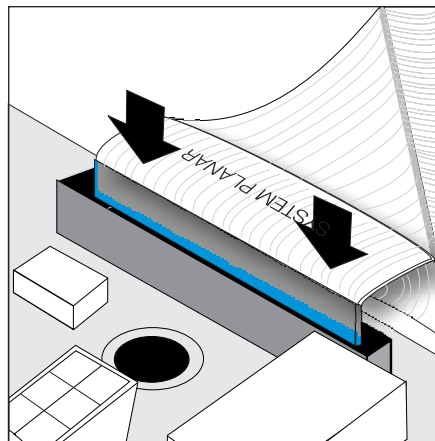

Figure 107. Install service controller cable into the system board
- a. Use all the parts in the system board FRU kit (system board, processors (2), VRM, riser card). Re-use only the four memory modules that you removed in step 6 on page 191 and the two adapter assemblies that you removed in step 4 on page 191.
- e. CAREFULLY install the end of the ribbon cable (marked "System Planar") to the system board being sure to install the cable straight in. See Figure 107. Be sure to verify that the blue line on the cable connector end is not visible.